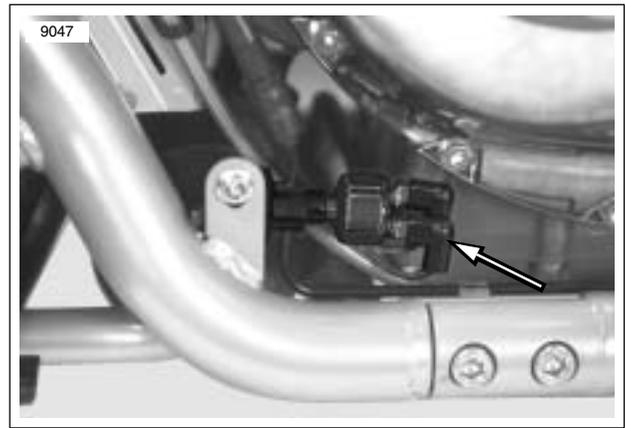

Figure 2-18. Stoplamp Switch Connectors [121]
57. See Figure 2-18. Pull connectors from stoplamp switch [121].
8. See Figure 2-18. Push on stoplamp switch wires.